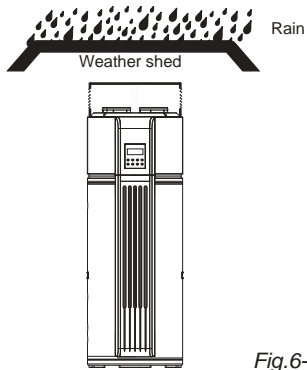
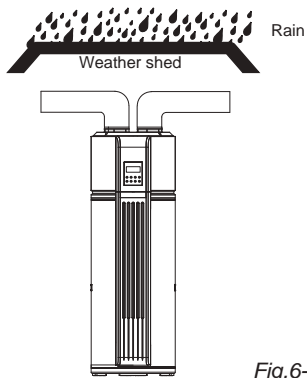

Fig.6-7
Fig.6-8
- In cases where the heat pump is installed outdoors, a reliable water-resistant measure must be used to avoid water ingress into the heat pump. (Fig.6-7 and Fig. 6-8)